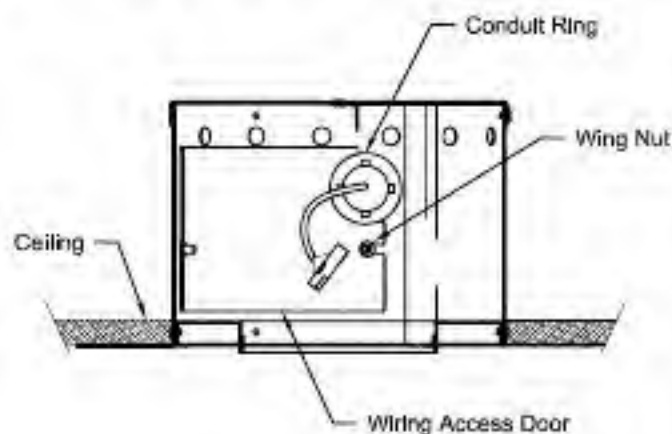

Figure 3
1. Remove factory installed Wiring Access Door on Fixture. See Fig. 3. Retain Wing Nuts and Door for re-Installation.